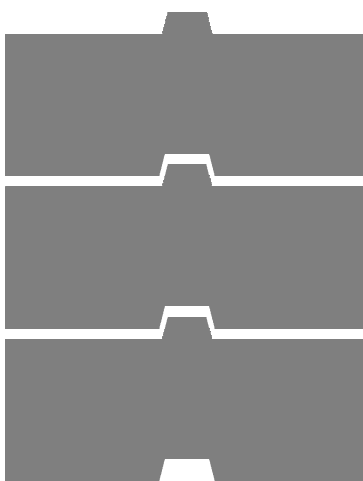
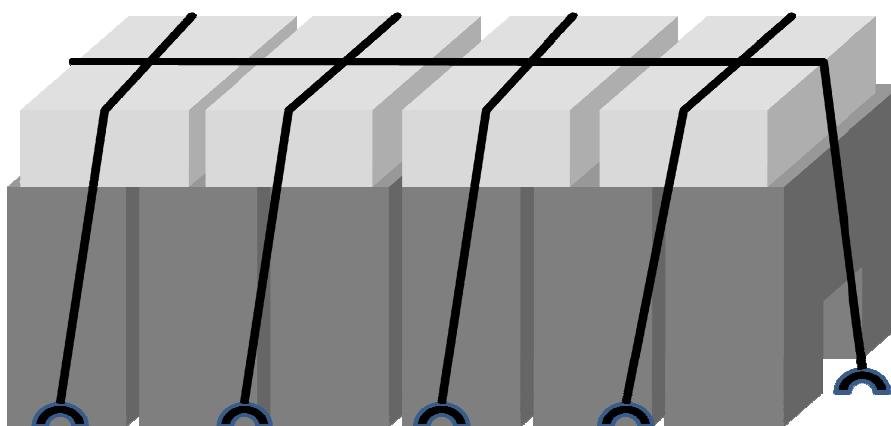

Figure 1 Counterweights with Interlocking kinks between one another
Figure 2 Entire counterweight assembly secured by suitable means
6. It is pertinent to note that that the individual counterweight blocks or plates are to be interlocked between one another through a suitable locking mechanism to ensure that they remain rigidly secured together as an assembly. One example of such interlocking mechanism is through the use of interlocking kinks or nips as shown in Figure 1. In addition to the interlocking mechanism, the entire counterweight assembly shall be further secured by means of suitable tie-in-belts, chain-and-load binder, wire ropes with turn-buckle or other suitable method. Examples of such tie-down methods are given in Figure 2. These methods are to be of adequate strength and capacity for its intended use. Authorised Examiners are to ensure that the counterweights are adequately secured to the machines as part of their routine statutory inspection.